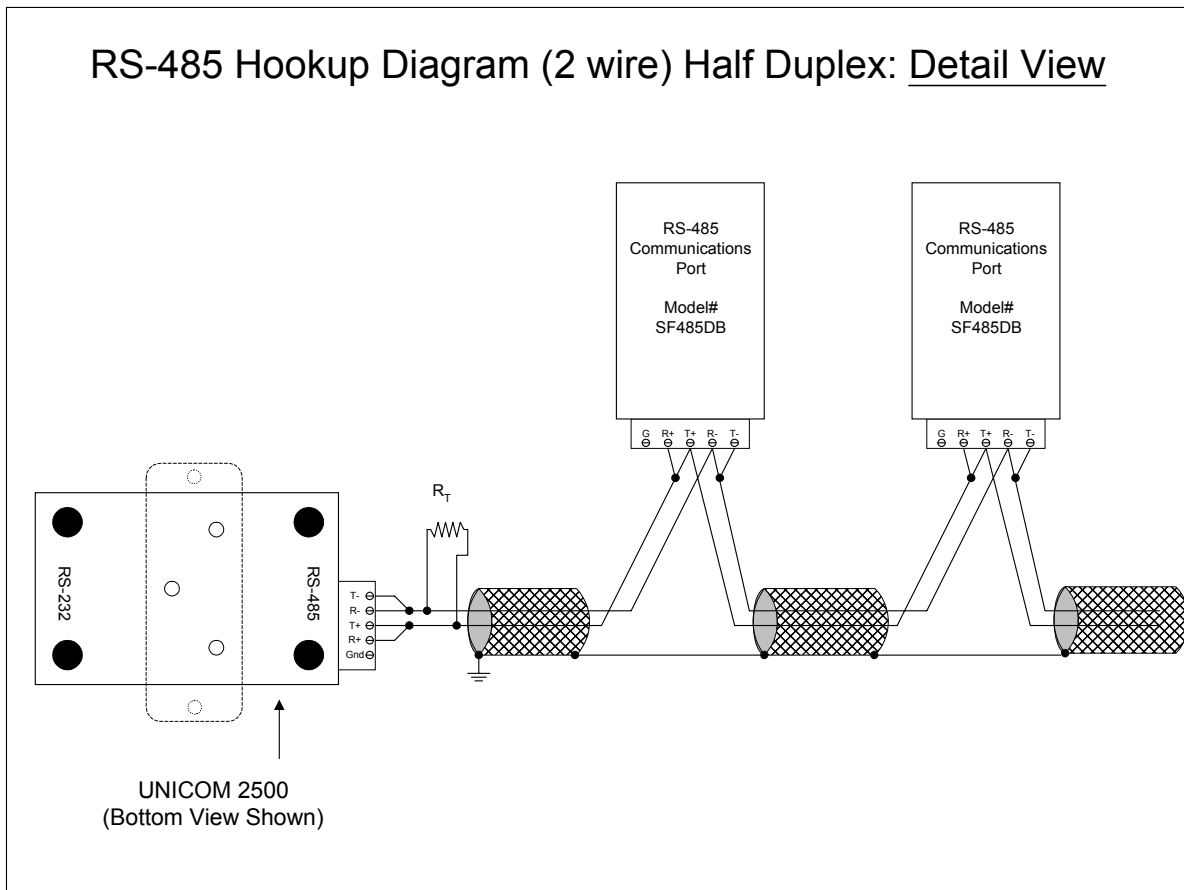

Figure 3.3 2-Wire RS-485 Communication Connection Installation Half Duplex Detailed View
- When using all 4 wires, the link can include up to 60 instruments, (Figure 3.3).